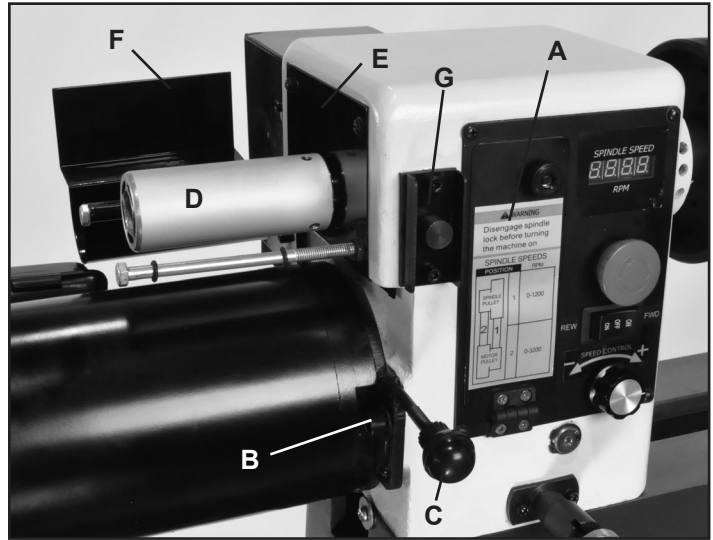

FIG. 13
2. Open the front Belt Door (#B75, FIG. 13, A) to gain access to the belt and pulleys inside of the headstock.
3. Loosen the front and rear motor mount Locking Hex Head Screws (#B37 & B36, FIG. 13, B).